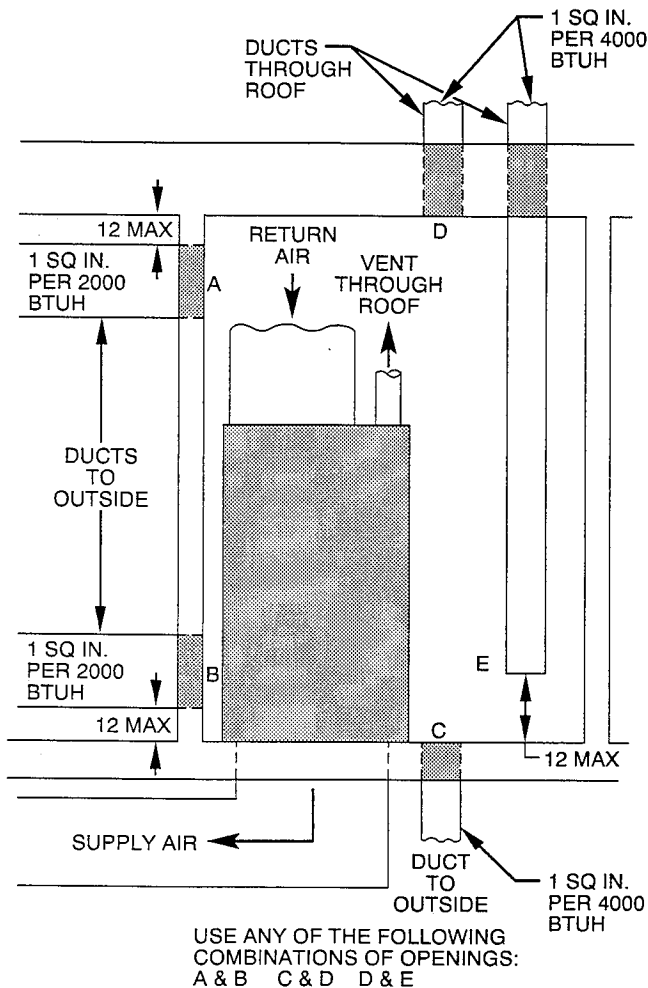

Fig. 3—Air for Combustion and Ventilation (Outside Air)
- If the furnace is installed on a raised platform to provide a return-air plenum, and return air is taken directly from the hallway or space adjacent to the furnace, all air for combustion must come from outdoors. (See Fig. 3.)
- b. If combustion air is taken from the outdoors through horizontal ducts, the openings and ducts **MUST** have at least 1 sq in. of free area per 2000 Btuh of the total input for all equipment within the confined space. (See Fig. 3.)
When ducts are used, they must be of the same cross-sectional area as the free area of the openings to which they connect. The minimum dimension of rectangular ducts must not be less than 3 in. (See Fig. 3.)